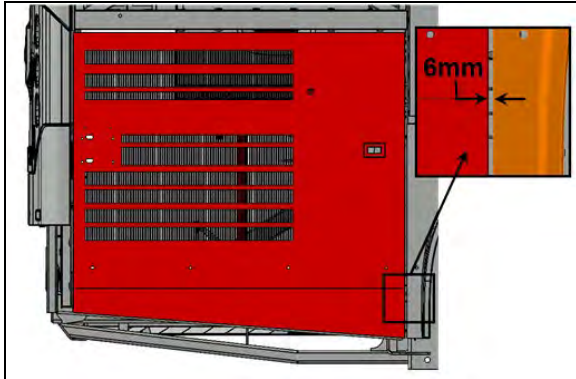

FIGURE 59
7. Check the gap between the door and the adjacent panel at the level of the lower attachment point of the arm on the door. The gap should be  $\frac{1}{4}$ " (6 mm) (FIGURE 59).